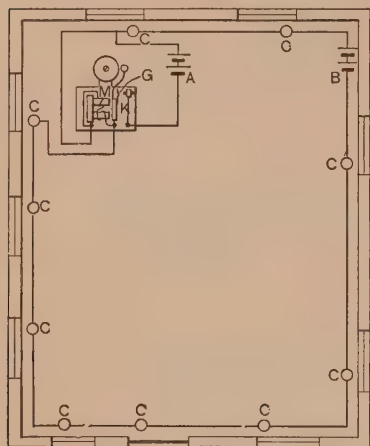
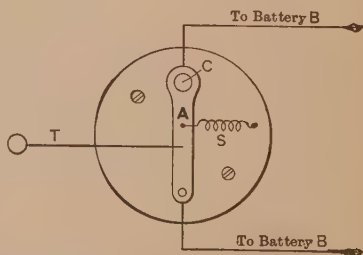

FIG. 198. Closed-circuit burglar alarm.
FIG. 199. Closed-circuit "trap."
**118. Burglar Alarms.** In order that the system may not be put out of order by the cutting of the wires, burglar alarms are generally of the closed-circuit type. A simple scheme of this kind is shown in Fig. 198. The battery *B* causes a current to flow through a circuit in series with the coils on the magnet *M* in the bell. This keeps the armature drawn over, leaving a break at *G*, so that battery *A* is not sending a current through the bell. But, as soon as the circuit containing battery *B* is broken, the armature springs back and is kept vibrating by battery *A*. The devices marked *C* and located at all windows, doors, skylights, etc., are often constructed on some modification of the device shown in Fig. 199 and are called "traps."